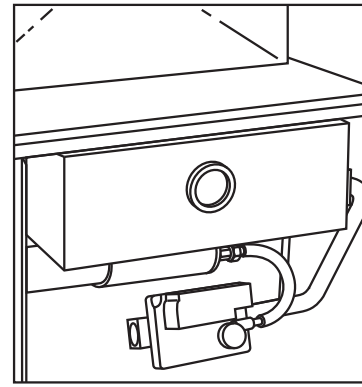

Fig. 33 - Remove Burner Enclosure Front
2. Remove burner enclosure front. (See Fig. 33.)